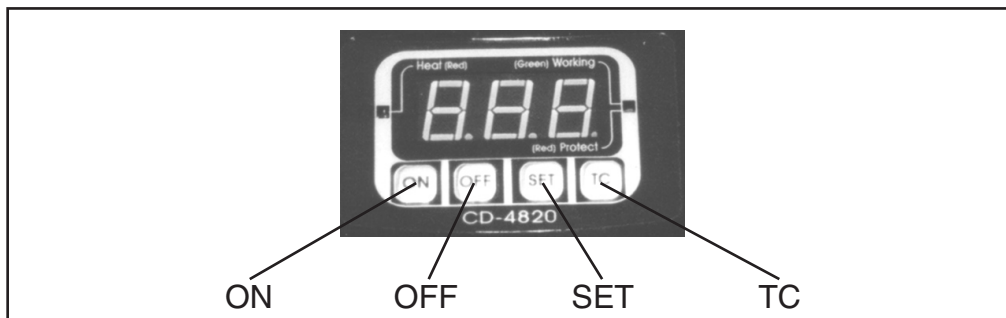

Figure 1
2. Press “SET” to choose a cleaning cycle-see Figure 1. Press “ON” to begin the cleaning cycle. A green light on the readout will light up, indicating that the cycle is on. The time displayed on the LCD readout is the time remaining for the cycle to run. The unit will automatically turn itself off when the readout reaches zero.